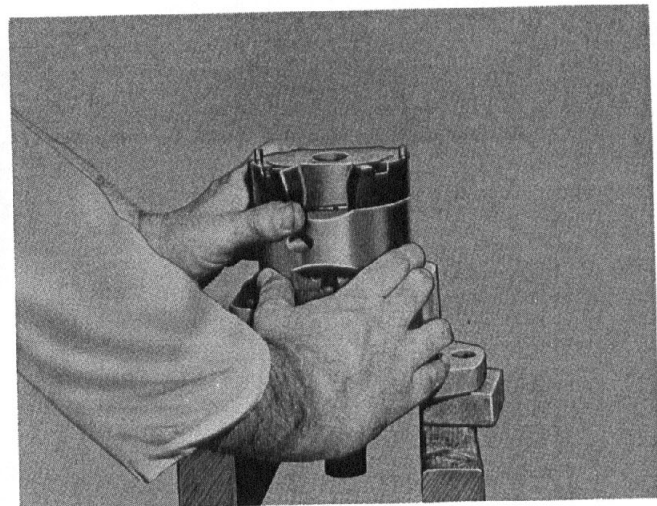

Figure 10 - Removing Cartridge.
1. Basic Pump - Remove the foot mounting and shaft key, if used. Support the pump on blocks or clamp the body in a vise as shown in figure 10. If a vise is used, use protective jaws to avoid damage to the body and its machined surfaces.
spring (if used) and the cover "O" ring. Pull and/or pry out the cartridge as shown in Figure 10.